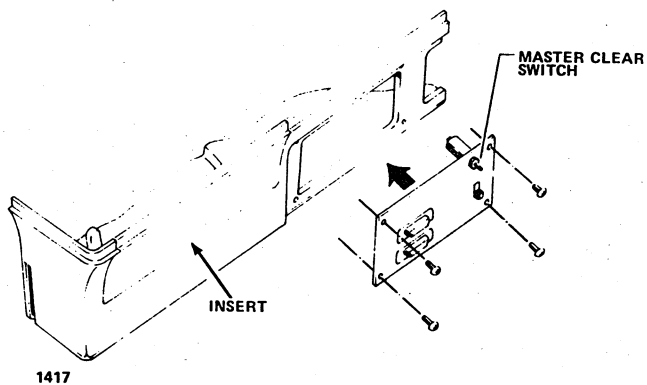

Figure 6-9. MASTER CLEAR Switch
1. Unscrew the four mounting screws holding the data entry panel to the chassis (figure 6-9).
6. Attach the panel to the chassis using the four mounting screws (figure 6-9).
3. Lift out the cabinet-back insert from the cabinet base (figure 6-9).
2. Remove the two screws holding the cabinet hood to the chassis and remove the cabinet hood. Also remove the cabinetback insert (figure 6-9) from the cabinet base.